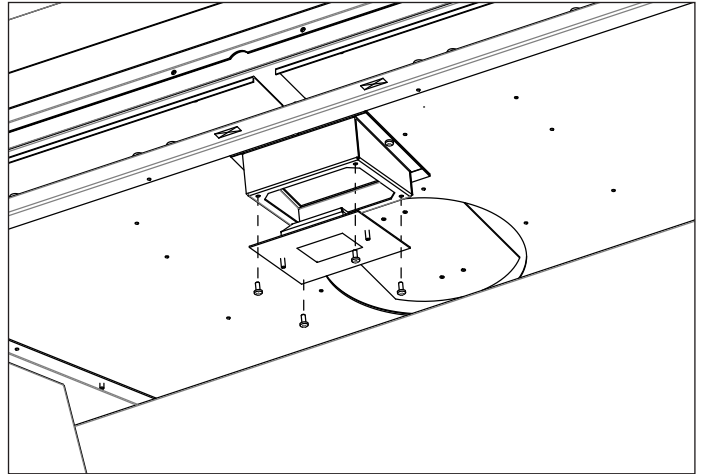

Figure 16: Top Light Removal
4. Remove the top light assembly by removing four (4) bolts using a 5/16" socket (see Figure 16).